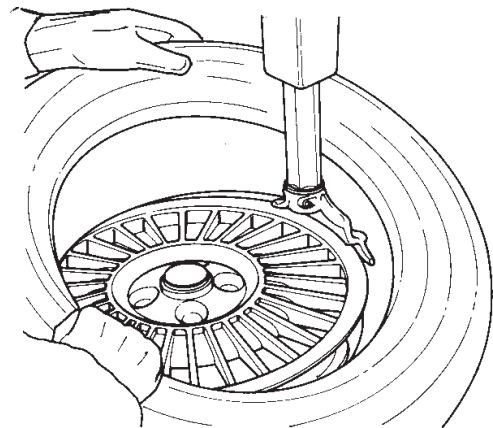

Fig. 4.2-3
B. Lock the rim to the turntable and rotate it so that the valve is at the 2 o'clock position. Place the tire to be mounted on the rim. Swing the mount/demount arm in so that the mount/demount head is in the working position. (Fig. 4.2-3) Position the lower bead on top of the mount/demount head and UNDER the mounting finger of the mount/demount head (Fig. 4.2-3). Turn the wheel clockwise (right pedal down) while simultaneously pushing the tire down into the drop center, opposite to the mount/demount head.